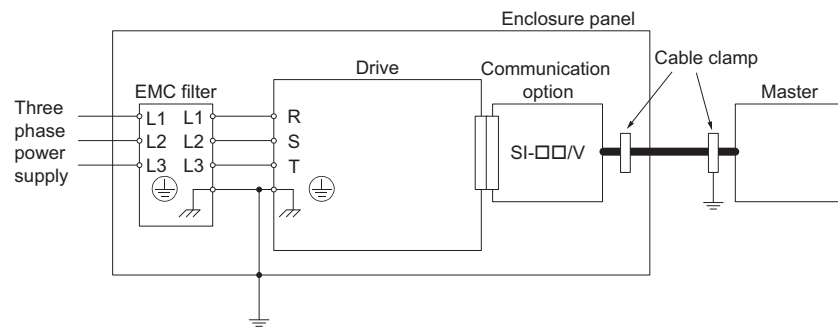

Figure 46 Option Installation for CE Compliance
2. Keep wiring as short as possible and ground the largest possible surface area of the shield to the metal panel according to Figure 46.